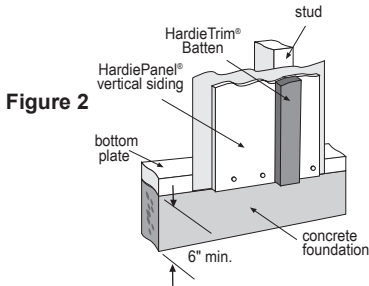

Figure 2
- When installing James Hardie products all clearance details in figs. 2,3,4,5,6,7,&8 must be followed.